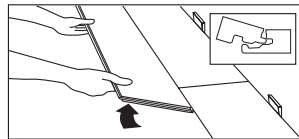

Figure 7
- Install the long edge of the first board at an angle to the board in the previous row. Keep this board at its natural angle slightly raised off the subfloor (Fig. 7). Use a scrap piece of hardwood to support the row if needed.